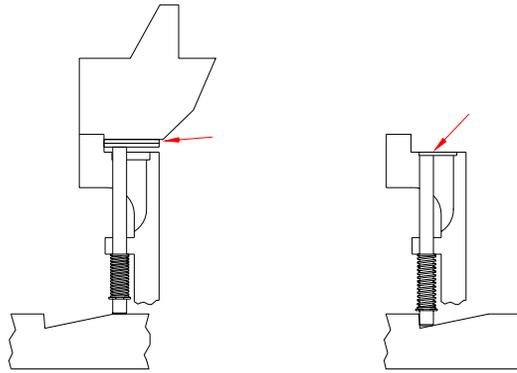

Fig. 20
- g) Cross check the pin height to the adjacent cylinder and then by placing both the suction valve plate and outer seat in the correct position on each liner that the outer seat sits in the correct position (Fig. 20).
- h) Ensure that a gap exists between the plate and outer seat as indicated and that the suction plate is able to sit fully in its seat when the pin is lowered for loading (Fig 20).